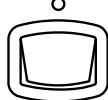

Figure 5
1. Press the STANDBY/ON Push-button on the Front Panel or press the  (Power) Push-button on the Remote Control to switch On the MS500. Refer to figures 5, 6 and 7. The LED above the STANDBY/ON Push-button will start flashing during the MS500 startup initialization process, which might take upwards of 30 seconds. The HD Monitor/TV connected to the MS500 will indicate the startup initialization procedure progress. Refer to figures 8, 9 and 10.
2. To switch Off the MS500, press the STANDBY/ON Push-button on the Front Panel or press the  (Power) Push-button on the Remote Control. Refer to figures 5 and 6.